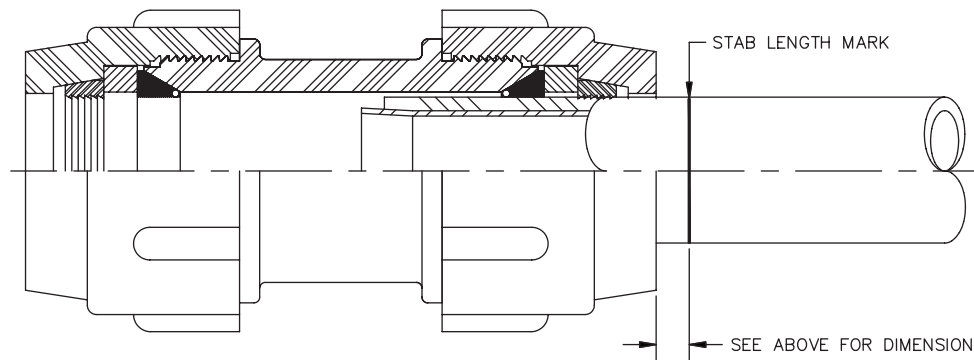

Figure 2
6. Tighten compression nut until it shoulders against the body of the coupling. Do not over tighten. If you cannot see the stab mark or the end of the compression nut is not within the distance listed below, reassemble fitting. See figure 2.